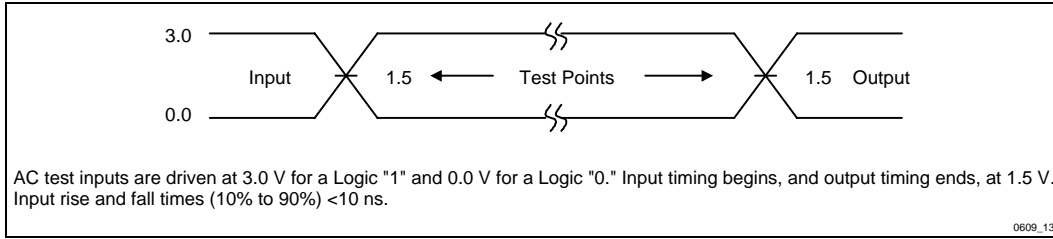

Figure 13. Transient Input/Output Reference Waveform for $V_{CC} = 5.0\text{ V} \pm 5\%$ (High Speed Testing Configuration)
5. See Figures 13 through 15 for testing characteristics.
6. See Figures 13 through 15 for testing characteristics.